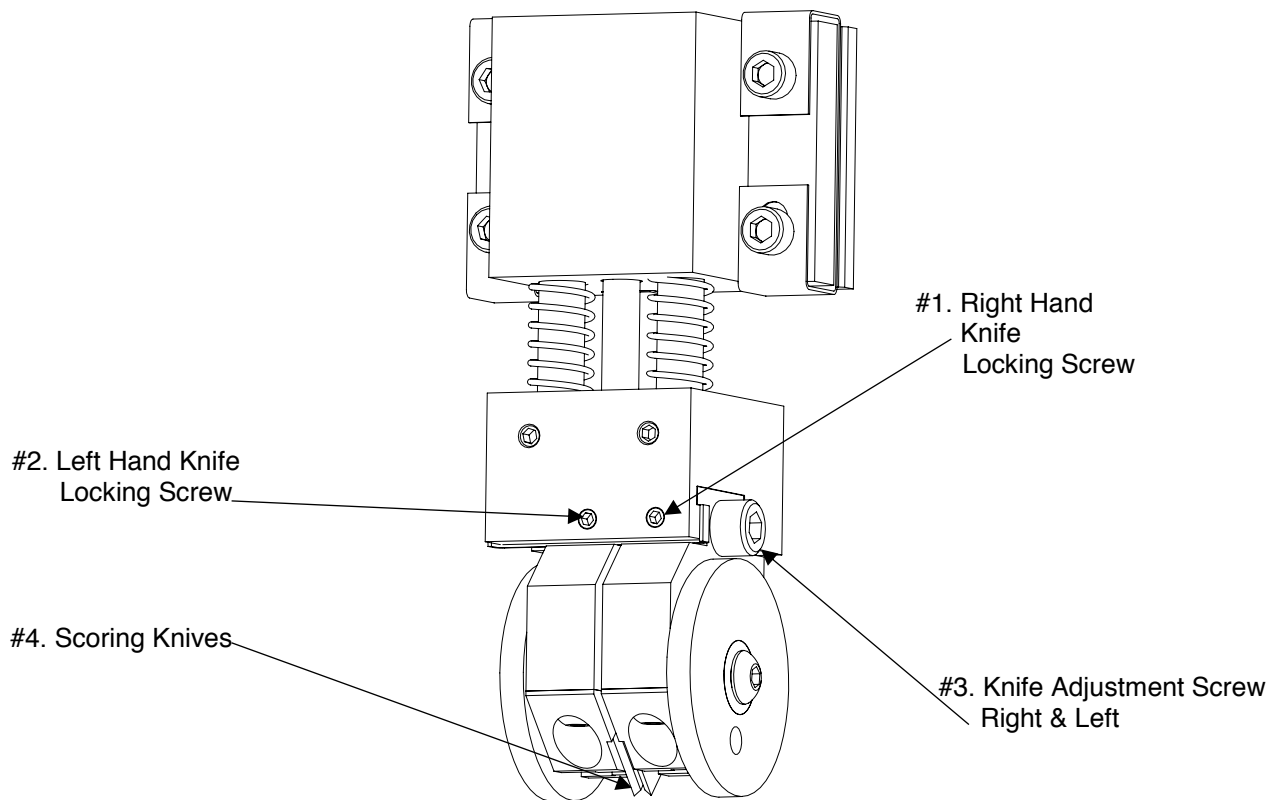

Figure 35: Scoring System
1. Loosen set screw #1, Fig. 35.
1. Loosen set screw #2, Fig. 35.
NOTE: DO NOT loosen or adjust #3, Fig. 35 for this procedure.
1. Loosen both set screws #1 & #2, Fig. 35.
2. Loosen both Right and Left Hand Knife Locking screws (#1 & 2, Fig. 35) and separate both knives.